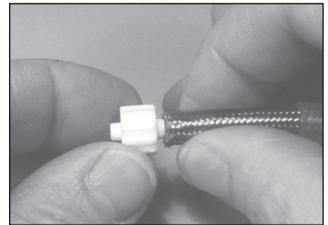

Figure 2
5. Select a plastic connector (it doesn't matter which connector), and push its barb into the hose. The hose should be slightly less than fully seated. Leave about $\frac{1}{16}$ " between the hose and back of connector. (Figure 2)